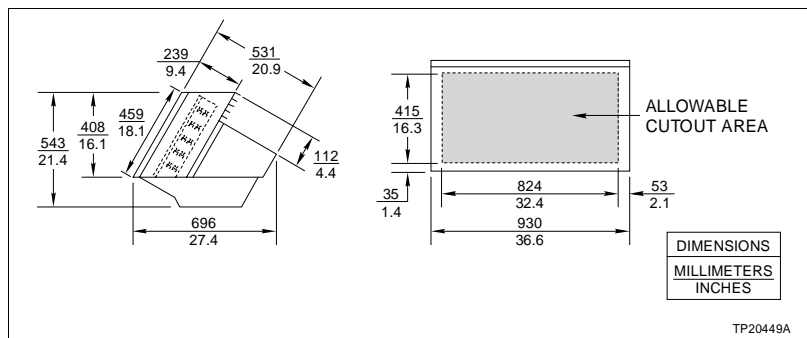

Figure PR30-2. Auxiliary Panel Customer Cutout Area
- 8. Make the cutouts for customer-installed equipment. Figure PR30-2 shows the allowable cutout area.